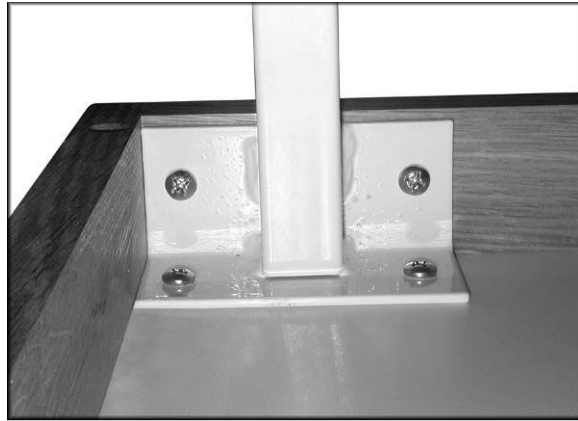

Figure 7
2. Position leg brackets at one end of wood table, as shown in Figure 7. Hold leg firmly in place while driving in screws using a Phillips bit in a power drill.